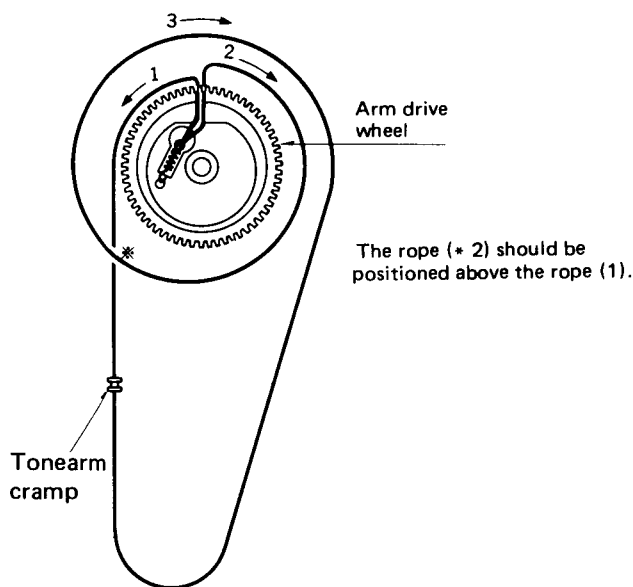

Fig. 15
- Turn over the arm drive wheel, and set the rope according to the steps 1 ~ 3 in Fig. 15.